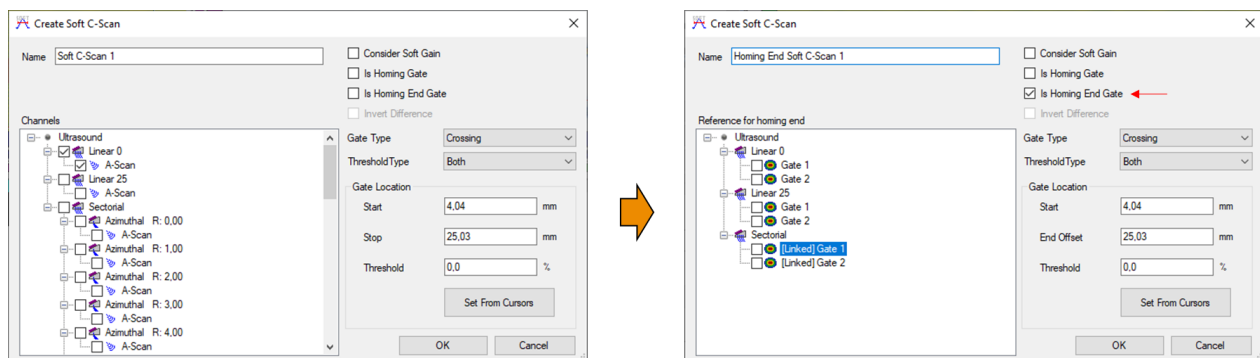

Figure 29: Activating Homing End mode for Soft C-Scans
3. Check the **Is Homing End Gate** checkbox so that the soft C-Scan will be created in the Homing End mode. As displayed in Figure 29, once checked: